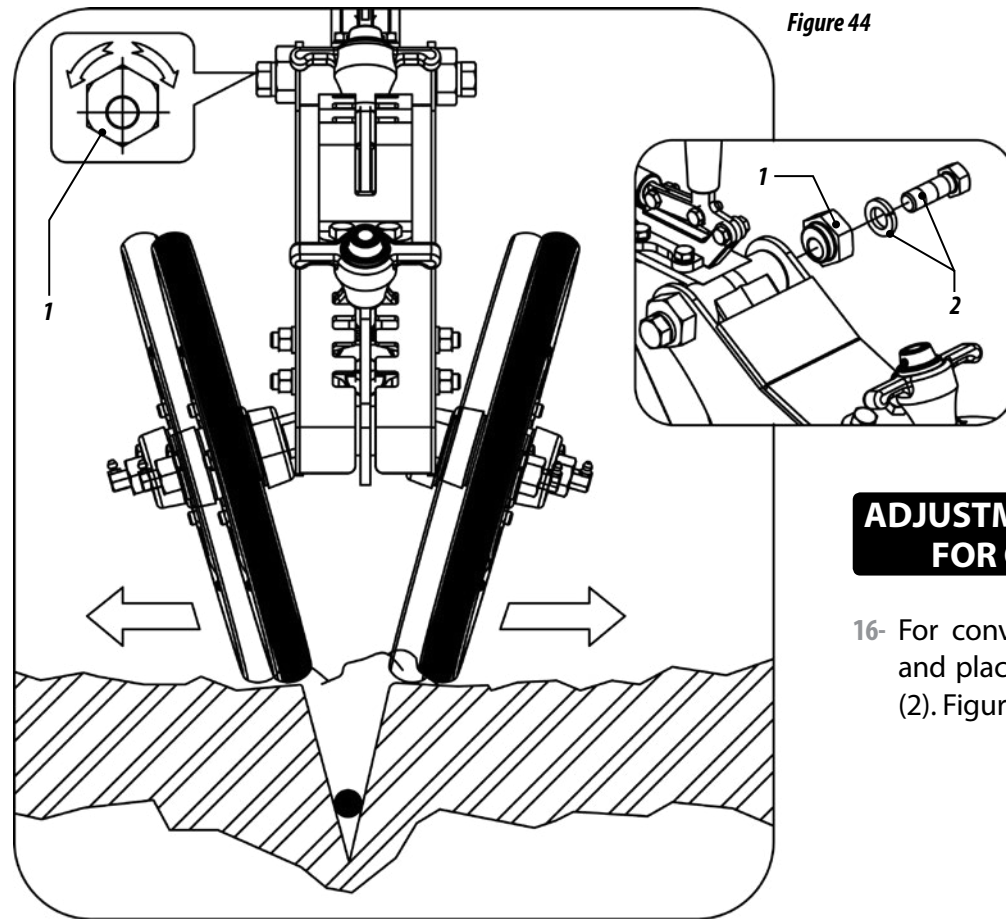

Figure 44
- 12- The wheels were developed with eccentric bushings (1), and for horizontal displacement, loosen the screws (2) rotate the bushing (1), with a key to performance and alignment of the wheels with the furrow, placing a greater or lesser amount of soil laterally to the seed. Figure 44.